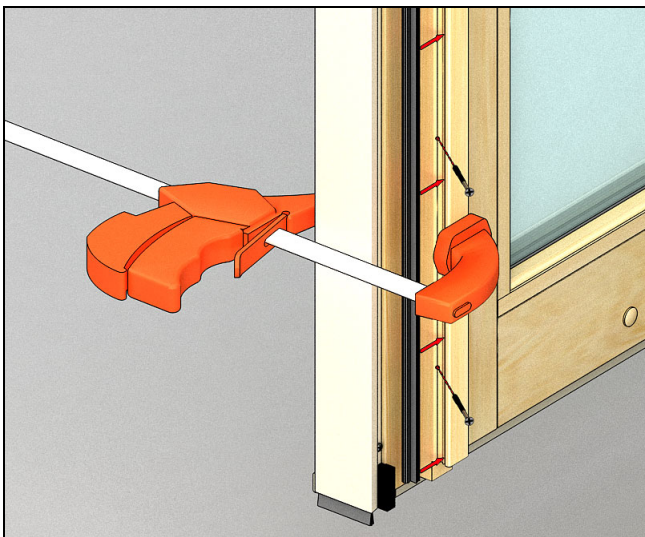

Figure 22
2. Clamp the corner cover to the corner panel. Align the pre-drilled hole at the bottom of the cover and stile. Fasten the corner cover to the stile using #6 x 1 1/2" flat head screws. Move the clamp next to each screw to ensure a tight connection of the corner cover. See Figure 22.